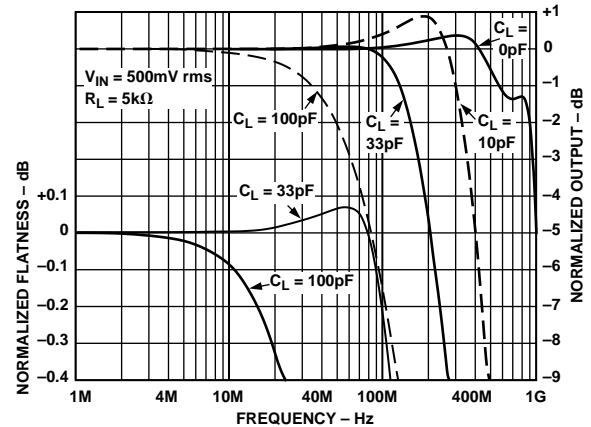

Figure 19. Frequency Response vs. Capacitive Load
- 4Decreasing  $R_L$  lowers the bandwidth slightly. Increasing  $C_L$  lowers the bandwidth considerably (see Figure 19).